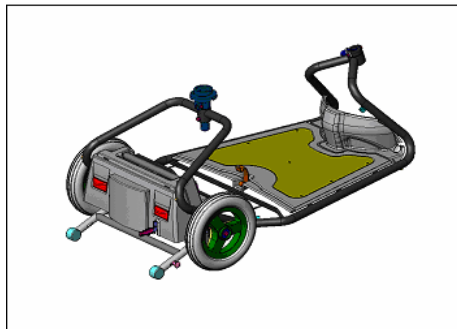

**figure 2**
- b. Lay the frame at the front of the power unit (See **figure 2**)